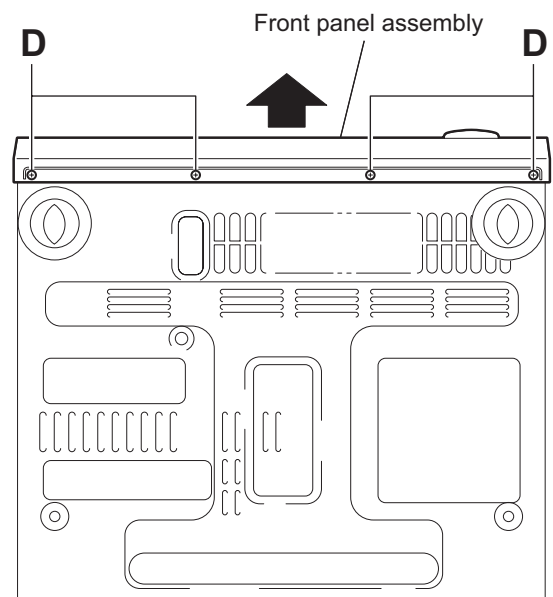

Fig.3
- (6) From the bottom side of the main body, remove the four screws **D** attaching the front panel assembly. (See Fig.3)
- (7) Remove the front panel assembly in the direction of the arrow. (See Fig.3)